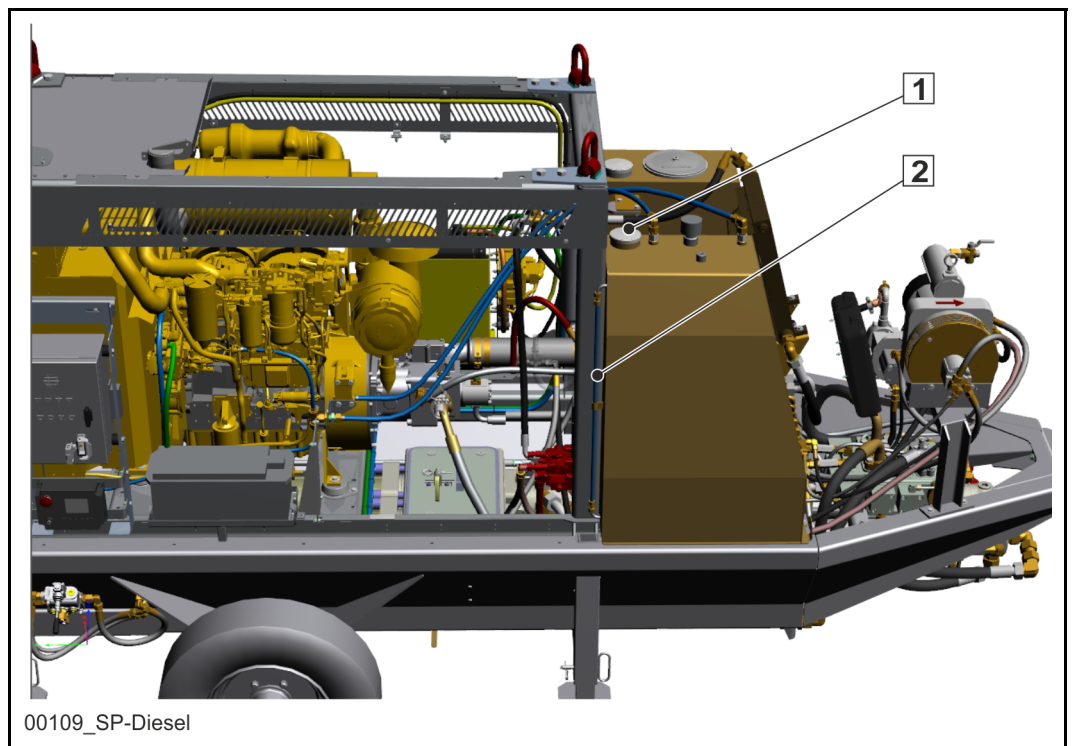

Fig. 36 Diesel filling neck
The filling neck (1) (**Fig. 36**) for the fuel tank is located on top of the fuel tank. The fuel tank features a level indicator (2) (**Fig. 36**).